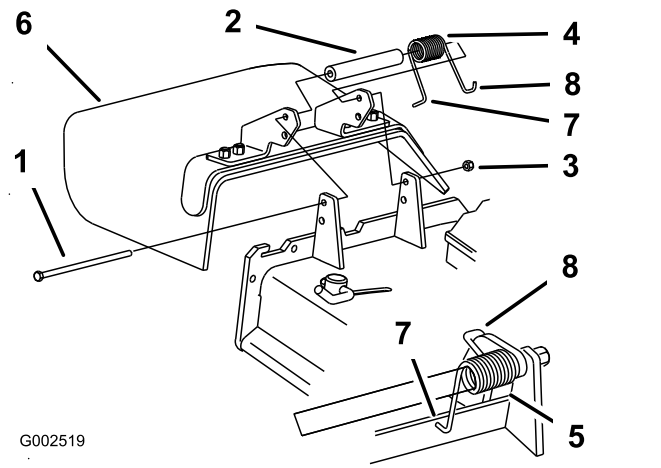

Figure 114
1. Remove the locknut, bolt, spring and spacer holding the deflector to the pivot brackets (Figure 114).
Note: Make sure that the L end of the spring is installed behind the deck edge before installing the bolt as shown in Figure 114
5. Place the J-hook end of the spring around the grass deflector (Figure 114).